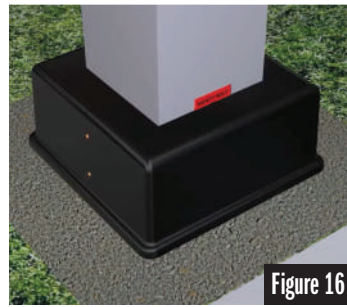

Figure 16
- Encase the bottom of the Base Pole with the Base Cover and secure the two halves with the (4) screws. See Figure 16.